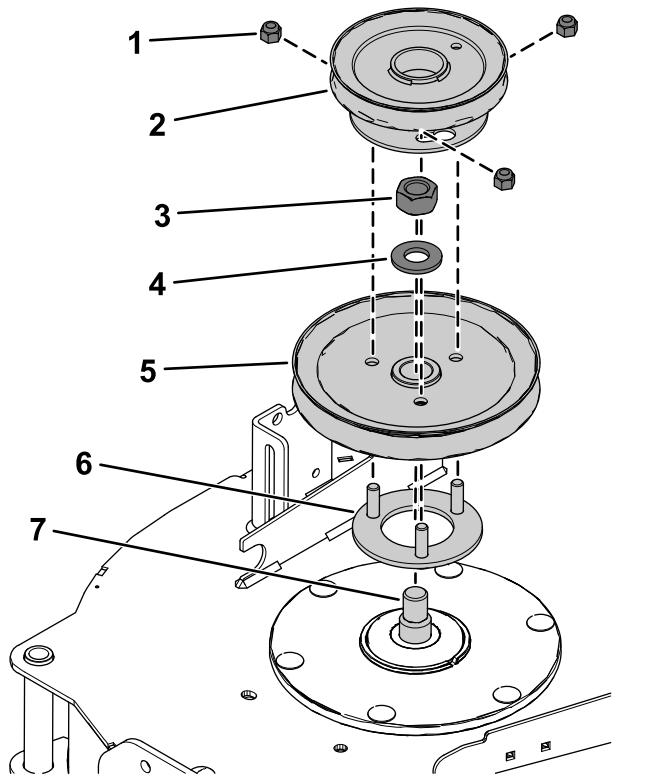

Figure 24
4. Insert the threaded studs on pulley mount through the holes in the deck pulley (Figure 24).
5. Secure the deck pulley to the spindle shaft using the previously removed hex nut (3/4 inch) and washer (Figure 24).
7. Arrange the blower pulley onto the threaded studs and loosely install the 3 locknuts (3/8 inch) as shown in Figure 24.